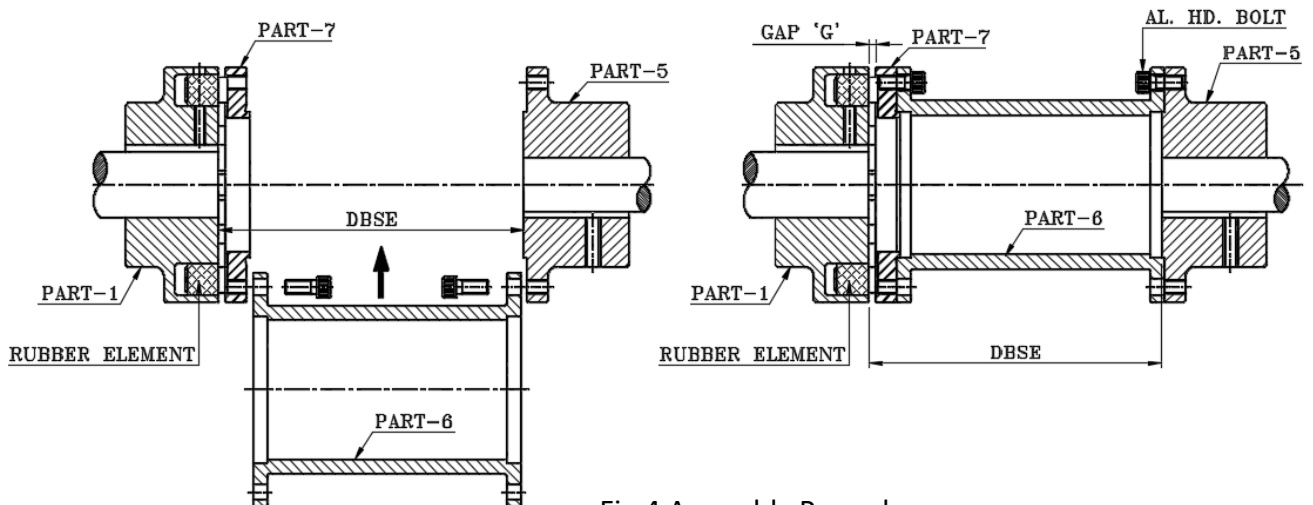

Fig.4 Assembly Procedure
- Insert rubber elements in the hub slot and assemble Jaw body (part 7) and spacer as shown in fig. 4.
- Assemble the spacer with Adapter & tighten all Allen Head bolts as shown in fig. 4 at specified tightening torque (refer Table 2).